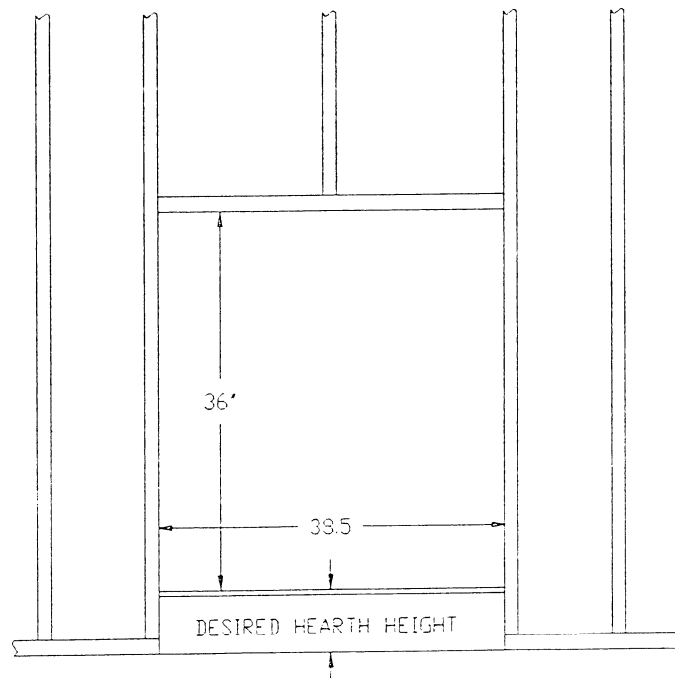

Figure 3
4. Rough in the wall enclosure. The minimum rough opening dimensions are 38 1/2" wide, 36" high and 20 1/4" deep. See figure 3. Build the hearth to the desired size, and height.